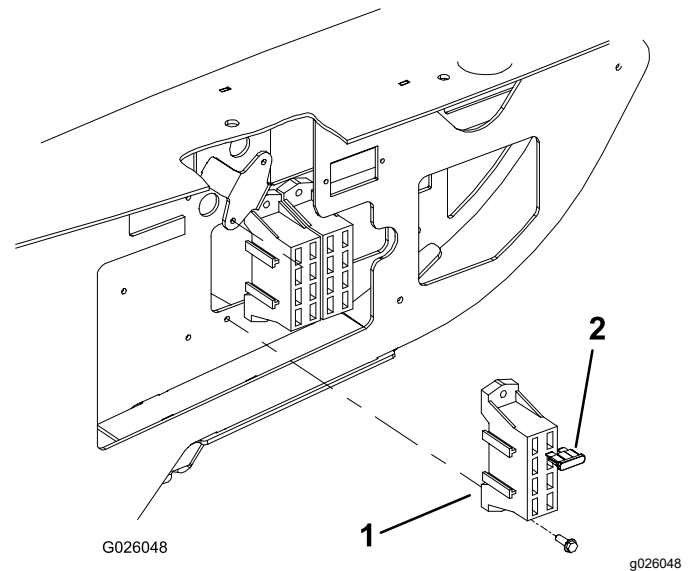

Figure 3
2. Mount the fuse block next to the existing fuse block with 2 screws (#8 x 1/2 inch) as shown in Figure 3.